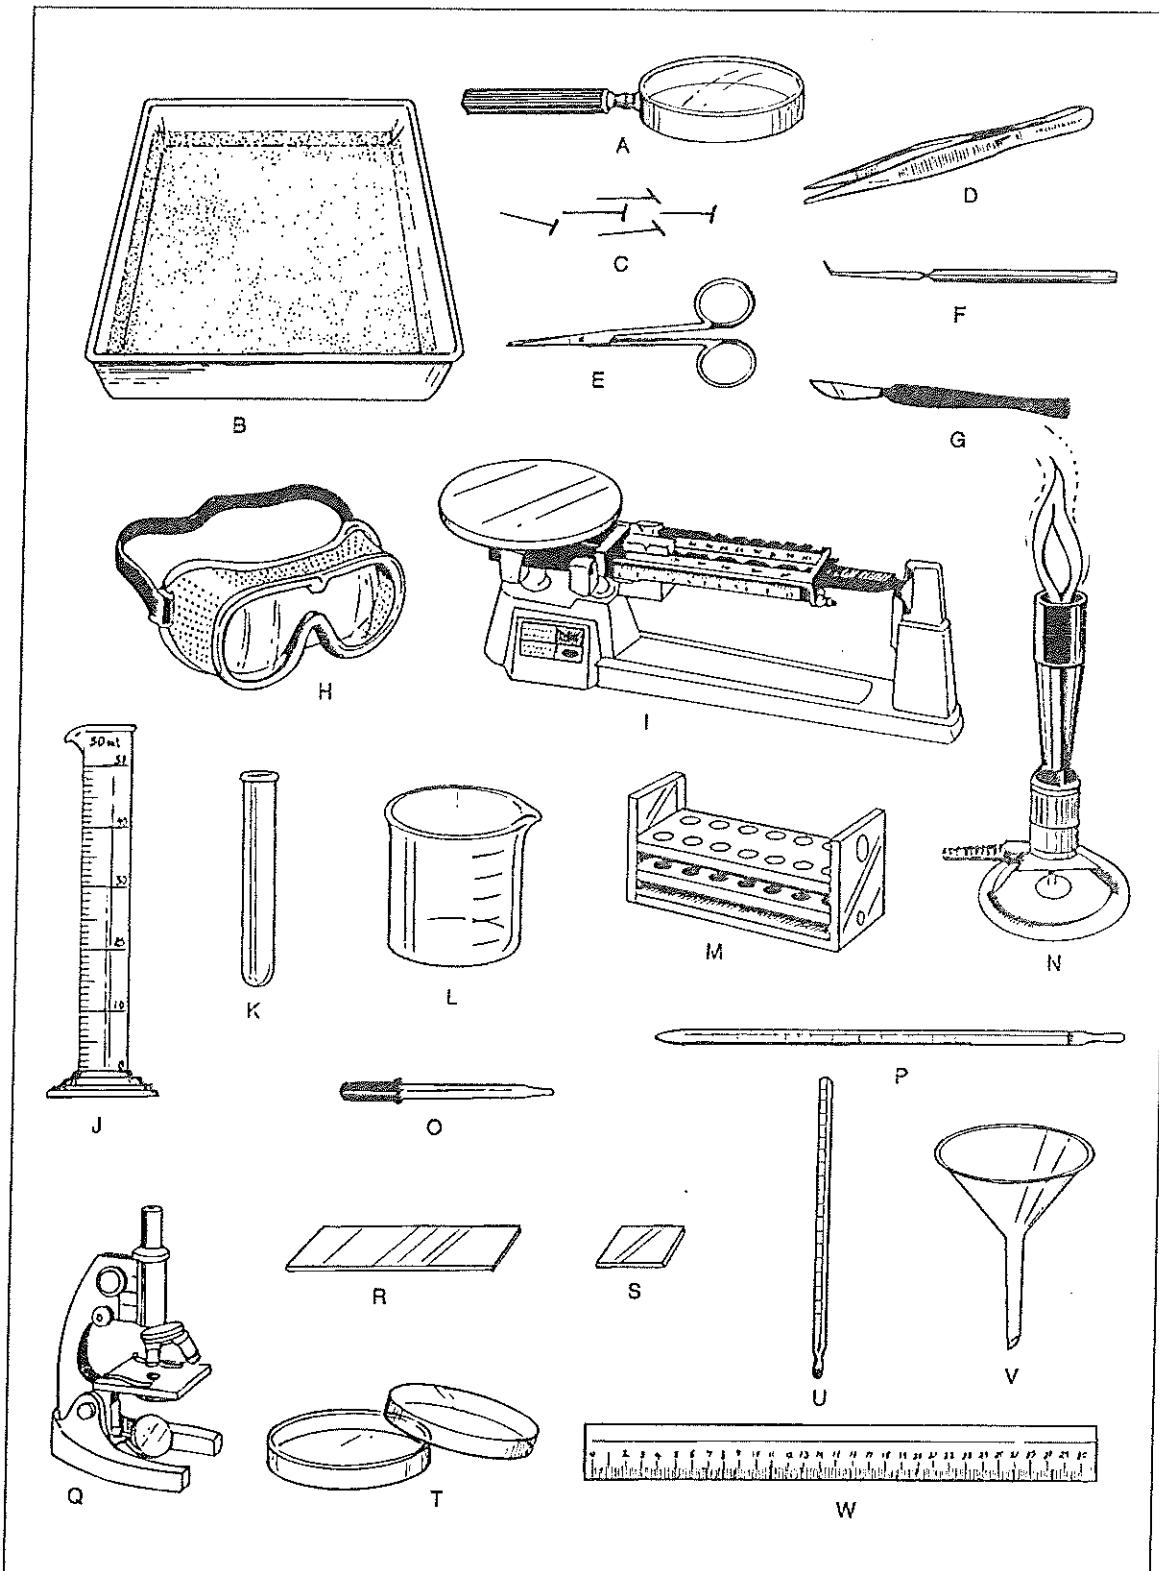

Figure 1
1. Look at the drawings of the laboratory equipment in Figure 1. In the space provided, write the name of each piece of laboratory equipment.